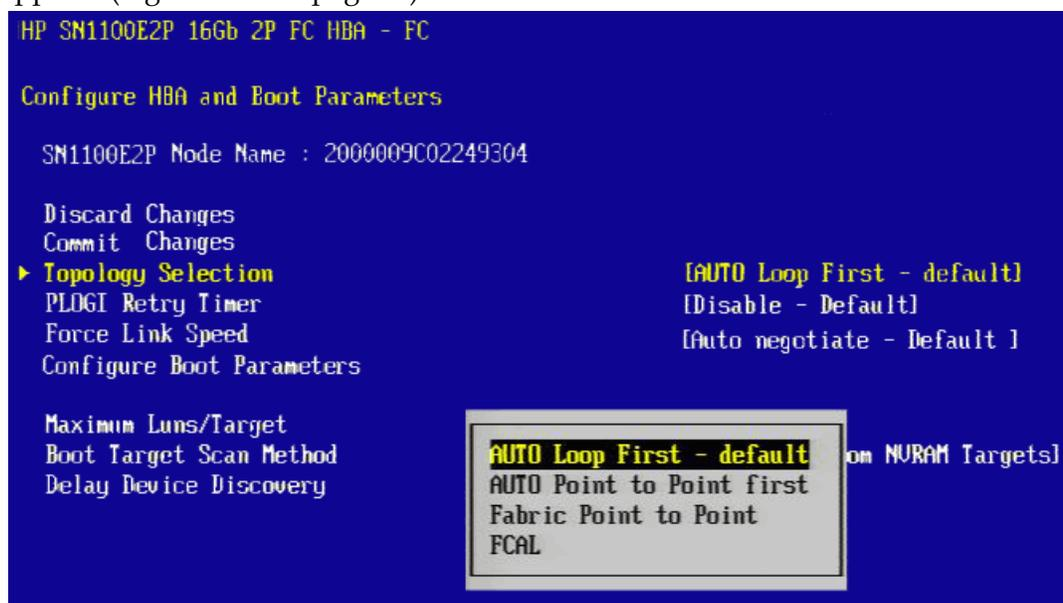
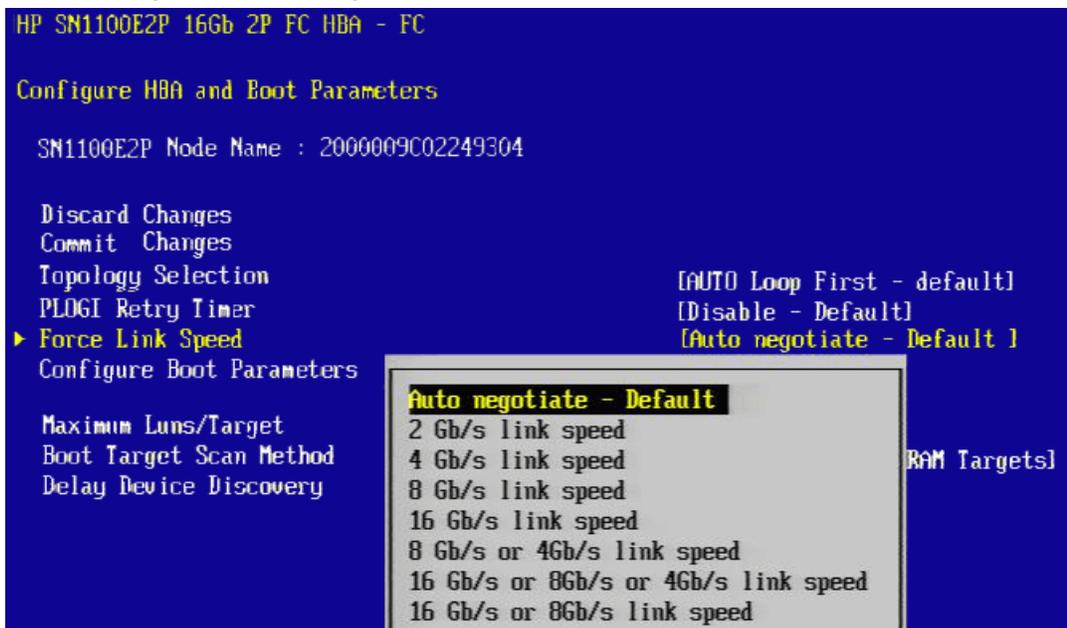
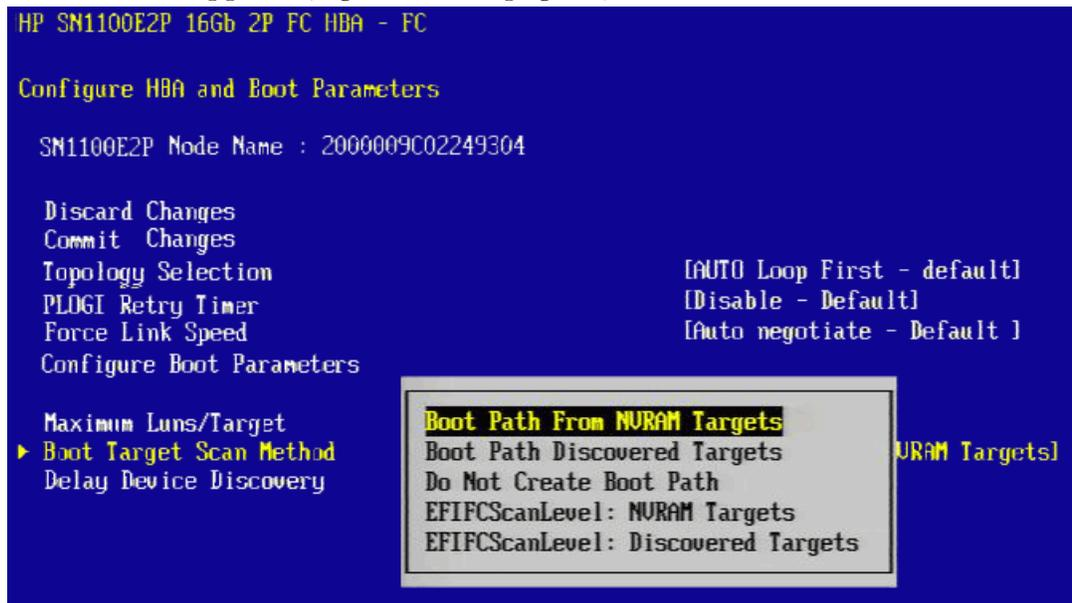

Figure 6-16 Topology Menu
Figure 6-18 Force Link Speed Menu Screen
Figure 6-20 Boot Target Scan Method Menu Screen
3. From the Configure HBA and Boot Parameters menu (Figure 6-16 on page 60), navigate to **Topology Selection** and press **<Enter>**. The Topology menu screen appears (Figure 6-16 on page 60).
3. From the Configure HBA and Boot Parameters menu (Figure 6-16 on page 60), navigate to **PLOGI Retry Timer** and press **<Enter>**. The PLOGI Retry Timer menu appears.
- From the Configure HBA and Boot Parameters menu (Figure 6-16 on page 60), navigate to **Force Link Speed** and press **<Enter>**. The Force Link Speed menu appears (Figure 6-18 on page 63).
3. From the Configure HBA and Boot Parameters menu (Figure 6-16 on page 60), navigate to **Maximum Luns/Target** and press **<Enter>**. The screen becomes editable (Figure 6-19 on page 64).
3. From the Configure HBA and Boot Parameters menu (Figure 6-16 on page 60), navigate to **Boot Target Scan Method** and press <Enter>. The Boot Target Scan Method menu appears (Figure 6-20 on page 65).